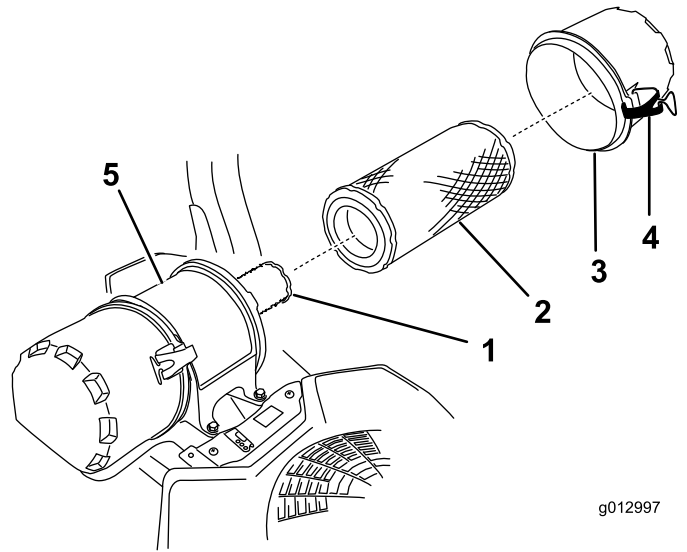

Figure 46
6. Release the latches on the air cleaner and pull the air cleaner cover off the air cleaner body (Figure 46).
8. Gently slide the primary filter out of the air cleaner body (Figure 46).
2. If the inner filter is being replaced, carefully slide it into the filter body (Figure 46).
3. Carefully slide the primary filter over the inner filter (Figure 46).
4. Install the air cleaner cover and secure the latches (Figure 46).